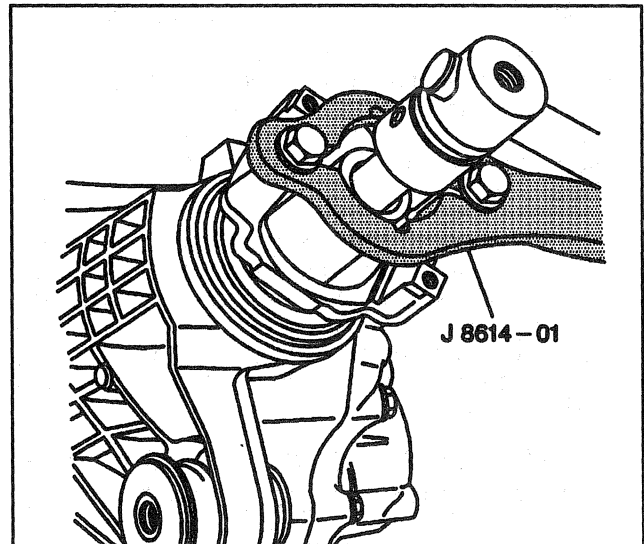

Figure 16—Removing/Installing the Pinion Nut
2. Nut using J 8614-01 (Figure 16).